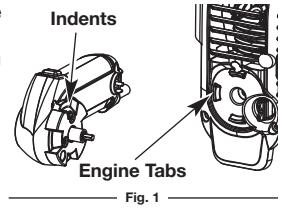

Fig. 1
- Place the electric starter keyed tip into the hole in the rear of the engine, making sure the engine tabs on the back of the engine are flush with the indents on the electric starter. (Fig. 1)